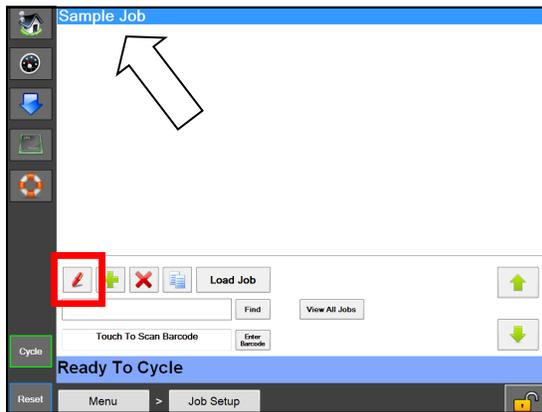

Figure 5-3A. Editing Job.
2. From the Job Setup Screen, highlight the job to be edited and press the Red Pencil button. **Figure 5-3A.**